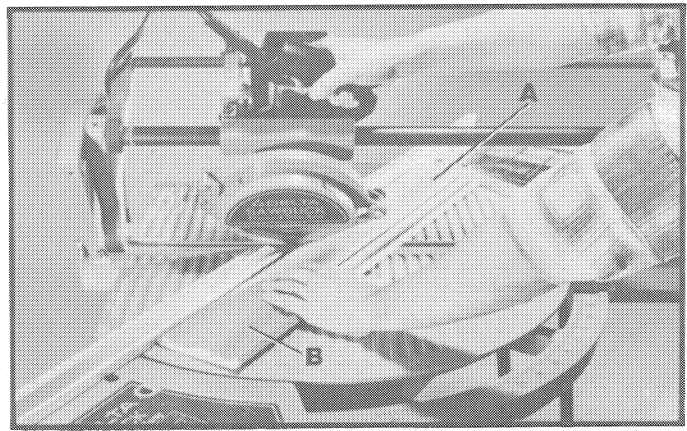
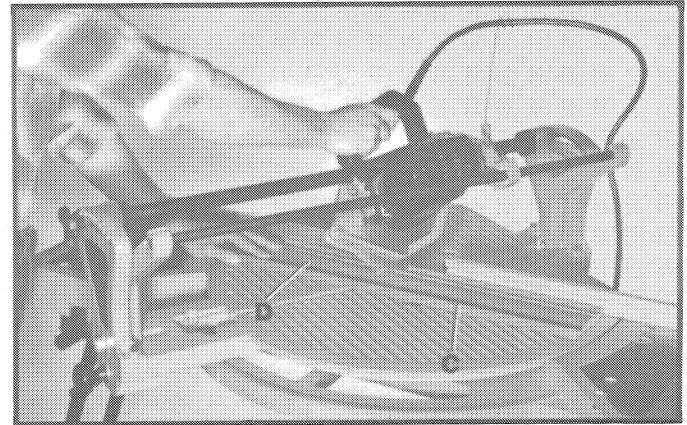
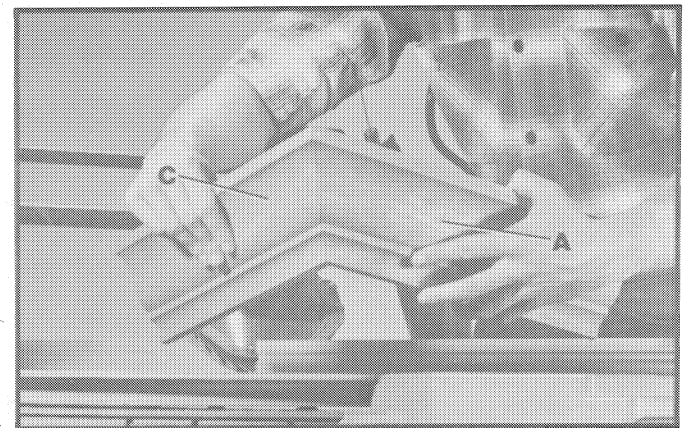
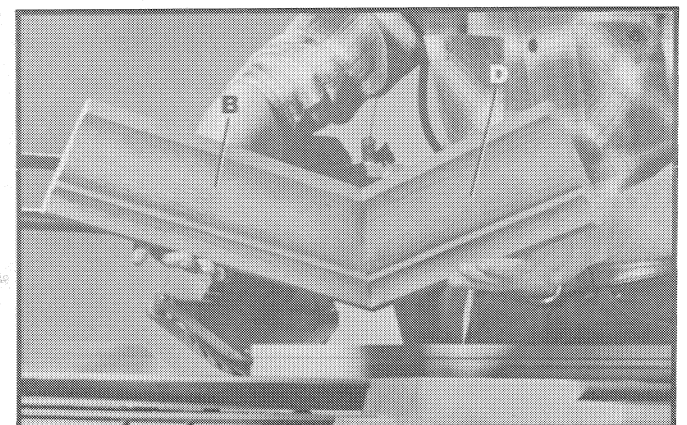

Fig. 49
Fig. 50
Fig. 51
Fig. 52
1. Set the track arm to the 31-5/8 degree right miter position, as shown in Fig. 49. A positive stop is provided to set the track arm at this angle quickly. Tilt the saw blade to the 33-7/8 degree bevel position. An indicator mark is provided on the bevel scale to find this angle quickly.
2. Place the crown moulding on the saw table with the **ceiling edge** of the moulding against the fence, as shown in Fig. 49, and make the cut. The piece of crown moulding used for the outside corner will always be on the right hand side of the blade, as shown at (A) Fig. 49. The piece of crown moulding used for the inside corner will always be on the left side of the blade, as shown at (B) Fig. 49.
3. To make the matching halves of the inside and outside corners simply rotate the track arm to the 31-5/8 degree left miter position, as shown in Fig. 50. A positive stop is provided to set the track arm at this angle quickly. The saw blade is already tilted to 33-7/8 degree angle from the previous cut.
4. Place the crown moulding on the saw table with the **wall edge** of the crown moulding against the fence, as shown in Fig. 50, and make the cut. Again, the piece of crown moulding used for the outside corner will always be on the right side of the blade, as shown at (C) Fig. 50. The piece of crown moulding used for the inside corner will always be on the left side of the blade, as shown at (D) Fig. 50.
5. Fig. 51, illustrates the two outside corner pieces; (A) being the piece cut at (A) Fig. 49, and (C) being the piece cut at (C) Fig. 50.
6. Fig. 52, illustrates the two inside corner pieces; (B) being the piece cut at (B) Fig. 49, and (D) being the piece cut at (D) Fig. 50.